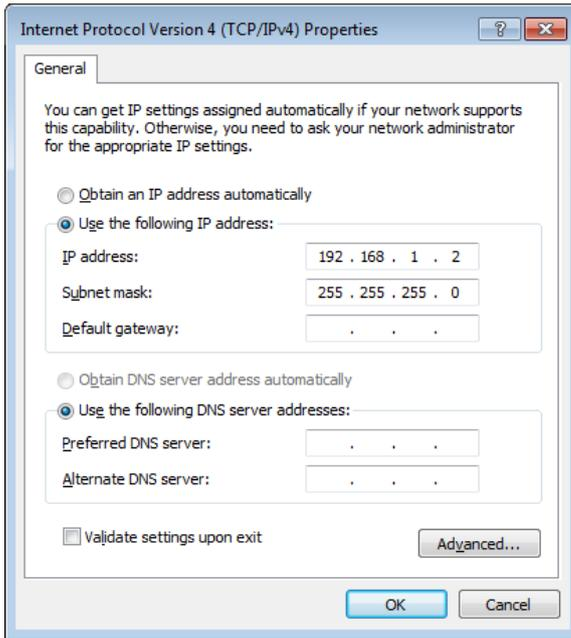

Figure 1.17. Static IP configuration for the host computer
2. Set this network card to static IP in TCP/IPv4 using the address 192.168.1.n, where n=[2..9] and the mask 255.255.255.0, see Figure 1.17 (go to Control Panel → Internet Options → Network and Internet → Network and Sharing Center → Local Area Connection → Properties).